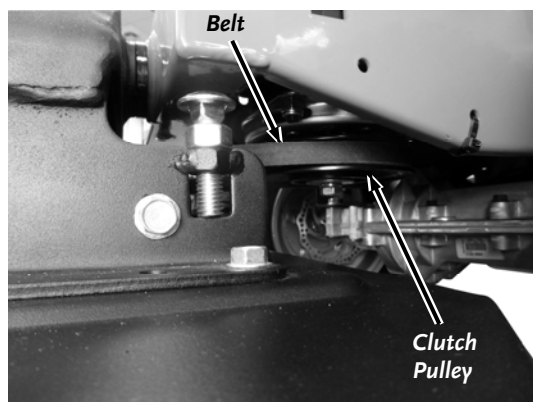

Figure 6
5. Wrap the Belt around the Clutch Pulley under the Power Unit (**Figure 6**).